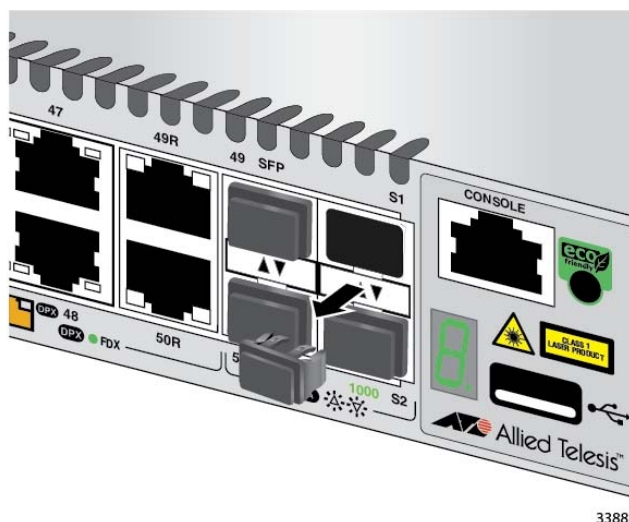

Figure 37. Removing the Dust Plug from the S1 Slot
1. Remove the dust plug from the S1 slot on the top switch of the stack, as shown in Figure 37.